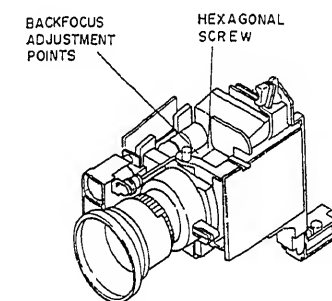

Fig. 4-4
3) Backfocus Adjustment (Fig. 4-4)